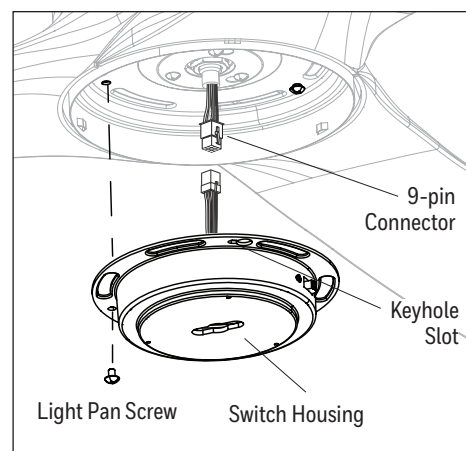

Figure 5.5
- Connect the 9-pin connector from the light pan to the 9-pin connector from the switch housing. Lift the two keyhole slots in the switch housing over the two loosened light pan screws and turn in a clockwise direction. Then, use the previously removed light pan screw to secure the switch housing to the light pan. Tighten all screws (Figure 5.5).